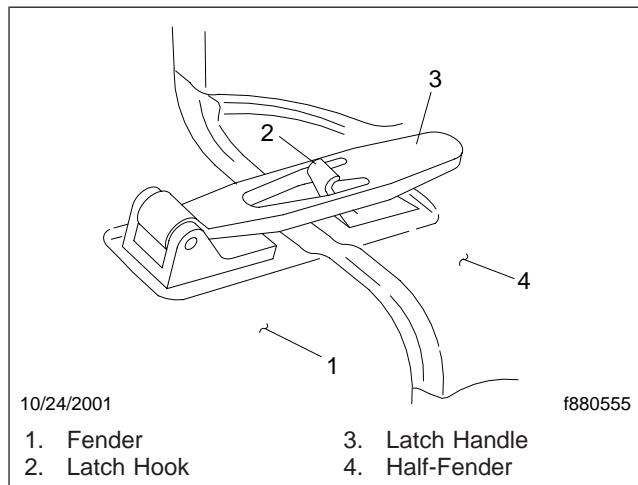

Fig. 2.10, Hood Hold-Down Latch
2. Release both hood hold-down latches by pulling the ends outward. See **Fig. 2.10**.